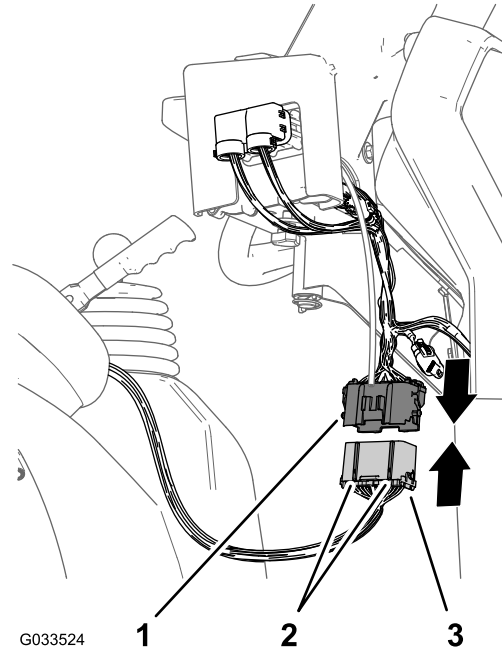

Figure 23
1. Align the 2 keys of the 38-pin connector of the rear-wire harness for the sprayer with the 2 keyways of the 38-socket connector of the front wire harness connected to the control console (Figure 23).
2. Plug the rear wire-harness connector into the front wire harness connector until the latches of the connectors snap together securely (Figure 23).